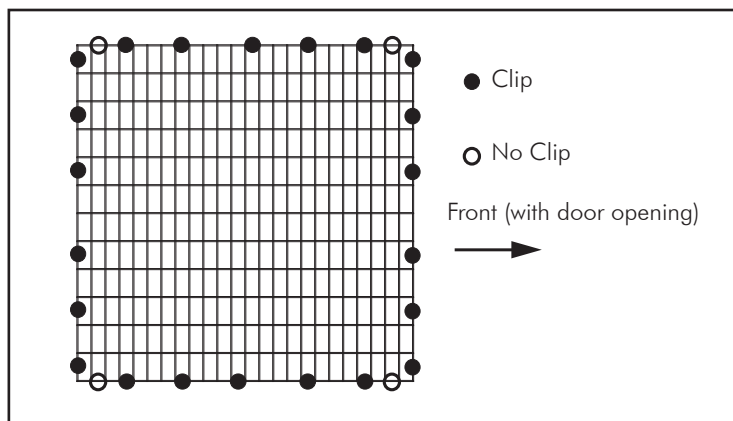

Figure 6
7. Place the top panel on top of the side panels. Fasten clips at each ● shown in Figures 6. Do not put clips where the ○ appears.